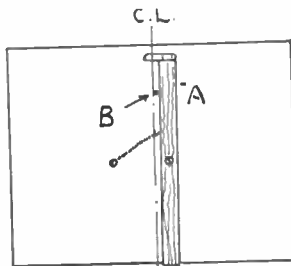
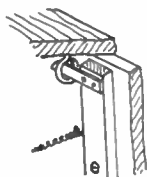

Fig. 2
Fig. 3
An interior view of the front is given in Fig. 2 to show the locking arrangement. This is a strip of  $\frac{1}{2}$ in. by 1in. wood (A) fitted to the front with a single round-headed screw, situated about midway, upon which it can swing sideways. To the top of this a metal catch filed up from a piece of sheet metal and measuring 2ins. in length and  $\frac{1}{2}$ in. in width, is screwed. This metal piece passes through the eye of the screw eye and locks the lid, as in detail sketch, Fig. 3. Some little adjustment between the positions of strip (A) and the screw eye will be necessary to ensure the locking arrangement working satisfactorily. Make sure (A) is long enough to pass through the bottom of the box and project a trifle, say,  $\frac{1}{4}$ in. below.